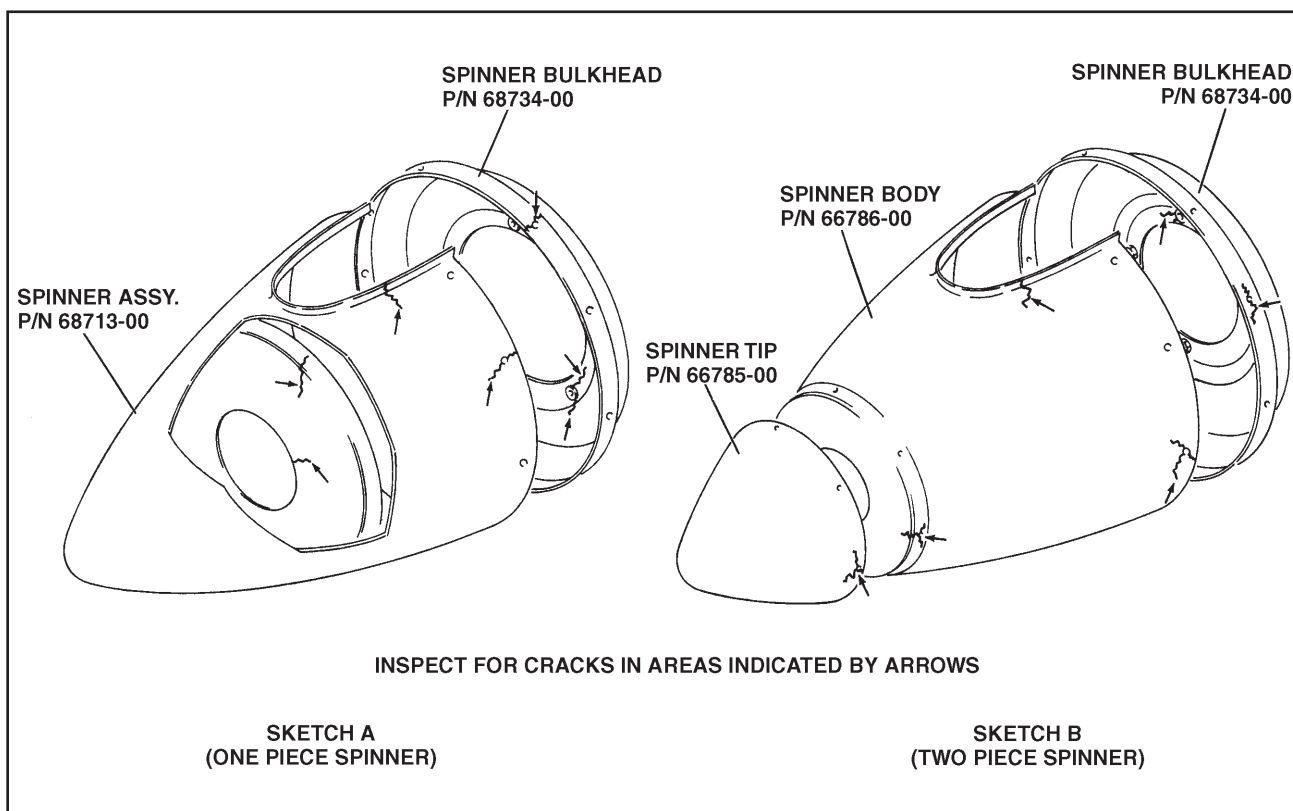

Figure 3-3
- (a) Remove spinner and inspect for cracks in the areas shown in Figure 3-3, Sketches A or B, as appropriate.
- (b) Inspect the spinner bulkhead for cracks in the area of the nut plates and attachment points as shown in Figure 3-3, Sketches A or B, as appropriate.